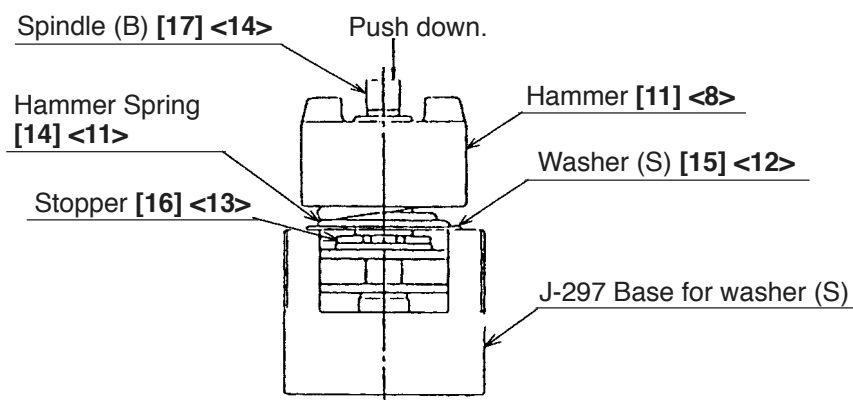

Fig. 8
Mount the hammer assembly onto the J-297 base for washer (S). With a hand press, push down the top of Spindle (B) [17] <14> to compress the Hammer Spring [14] <11>. In this position, remove the Stopper [16] <13> with a flat-blade screwdriver, then release the hand press. (See Fig. 8.)